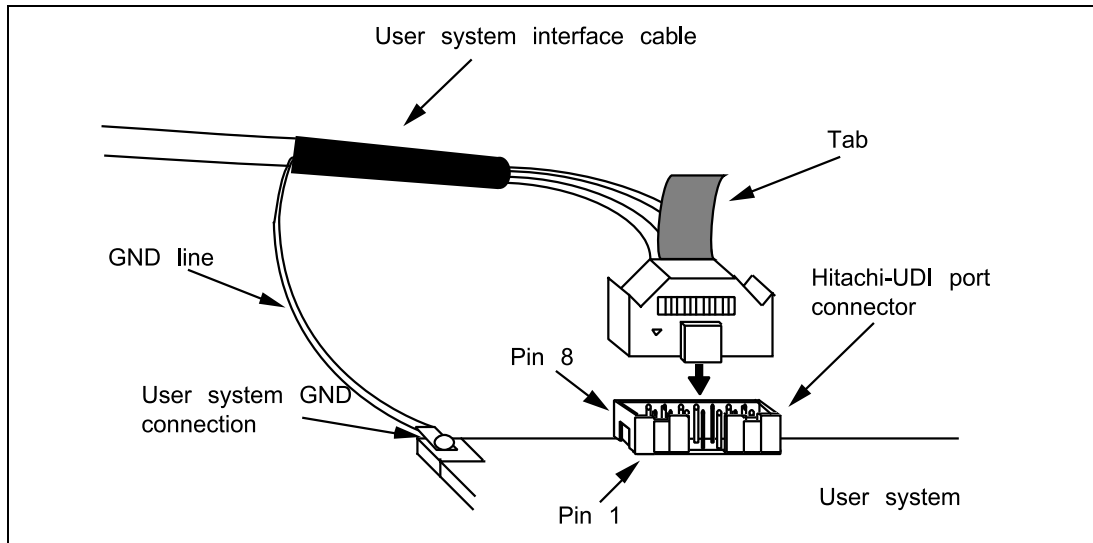

Figure 2.19 Connecting the User System Interface Cable to the User System when the 14-pin Straight Type Connector is Used
- (2) Note that the TDO signal of the user system interface cable connector must be connected to the TDI pin of the Hitachi-UDI port connector and the TDI signal of the user system interface cable connector must be connected to the TDO pin of the Hitachi-UDI port connector. Section 6.2 shows the pin arrangement of the Hitachi-UDI port connector.
- (3) Figure 2.19 shows how to connect the user system interface cable to the user system when the 14-pin straight type connector is used. Connect the ground line of the cable to the user system ground. The end of the ground line has a hole having a diameter of 3 mm, and therefore, when the ground line is screwed to the user system, the screw diameter must be 3 mm.